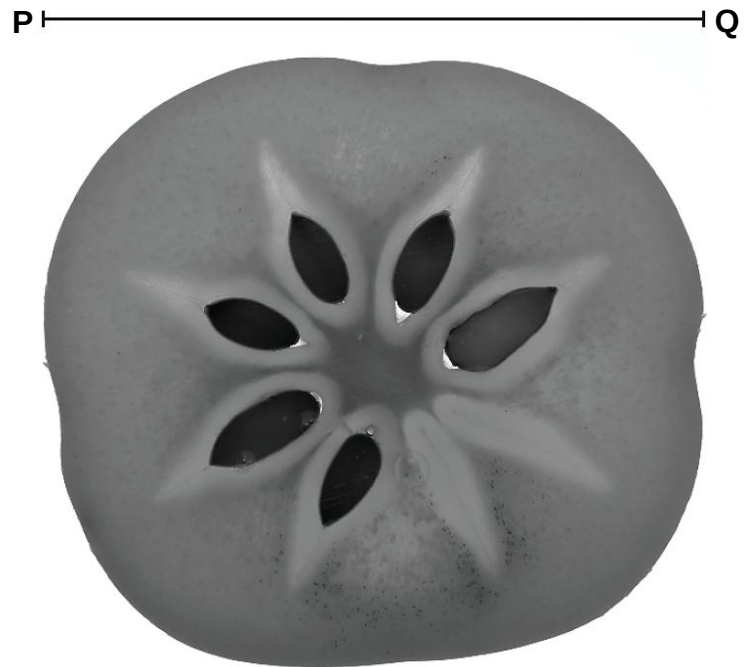

Fig. 2.1
- 2 (a) Fig. 2.1 is a photograph of a cross-section of a persimmon fruit.
- (i) Draw a large diagram of the persimmon fruit shown in Fig. 2.1.
- (ii) Line **PQ** on Fig. 2.1 represents the diameter of the persimmon fruit.
Measure the length of line **PQ** on Fig. 2.1.
$$\text{magnification} = \frac{\text{length of line } \mathbf{PQ} \text{ in Fig. 2.1}}{\text{actual diameter of the persimmon fruit}}$$